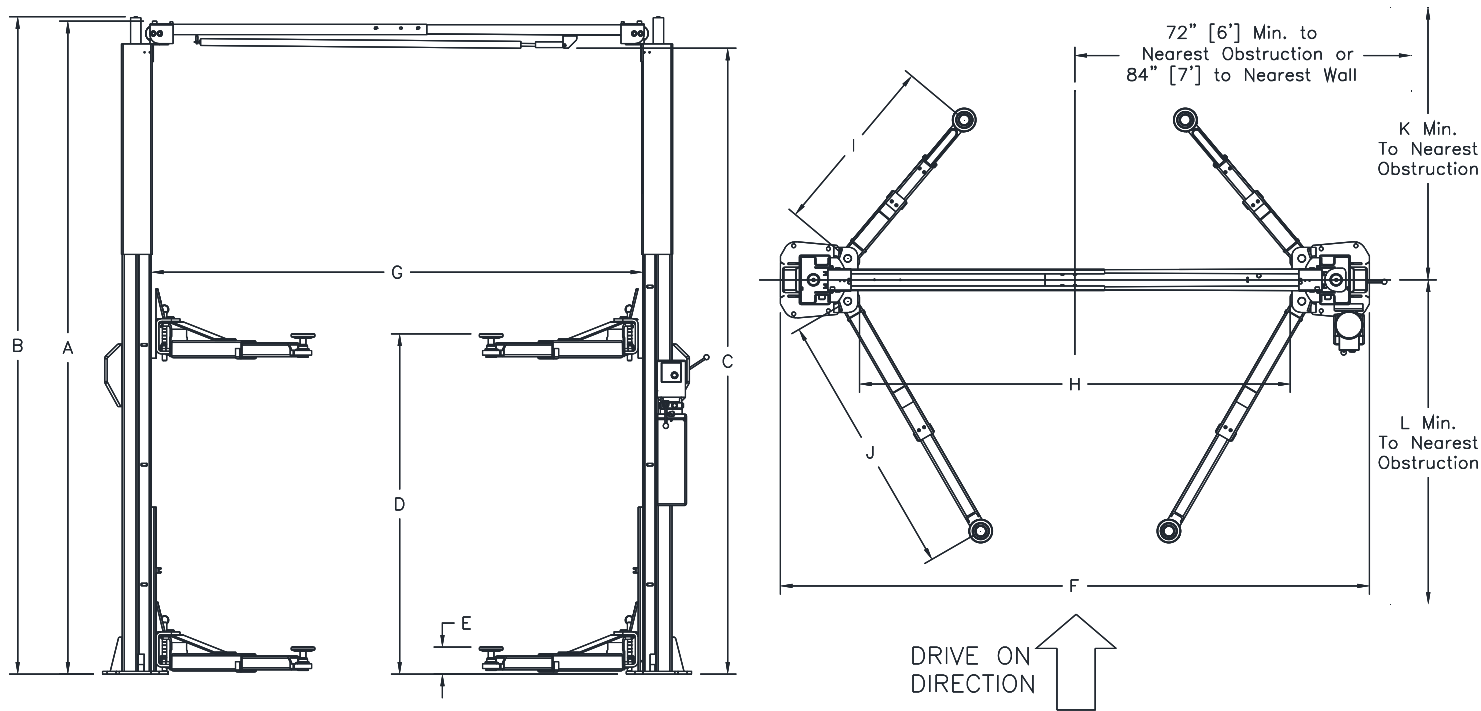
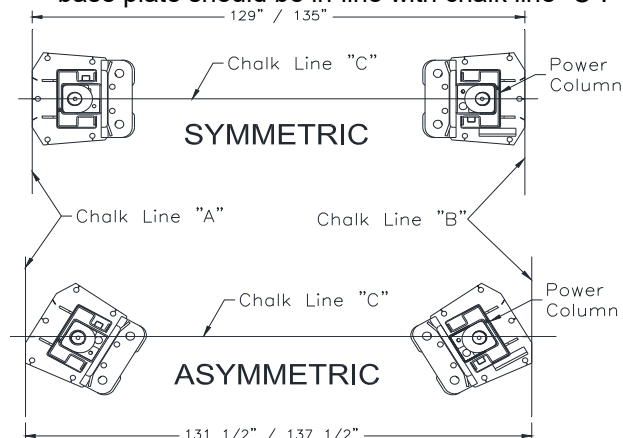

Fig 1 - General Specifications / Service Bay Layout
Fig 4 - Layout
- Layout the service bay according to architect's plans or owners' instructions (**see Fig 1**). **Failure to install in this orientation can result in personal and property damage.** Be certain that the proper conditions exist, see page 3.
- 7) Refer to Fig 1. Using the Base Width (D) Dimension, chalk two parallel lines (A & B) on the floor within 1/8" tolerance. Chalk a third line (C) perpendicular to lines A & B to designate fore and aft location. Erect both Column assemblies. Align the base plate edges to the chalk lines as seen in Fig 4 below. Slots in front and back of base plate should be in-line with chalk line "C".
- 8) Recheck "Inside of Columns" dimension (Fig. 1).